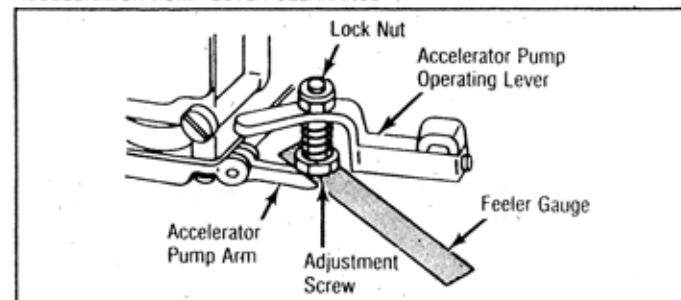

Fig. 7 Accelerator Pump Lever Clearance Adjustment
1. Hold throttle valves wide open. Manually depress accelerator pump arm. See Fig. 7.